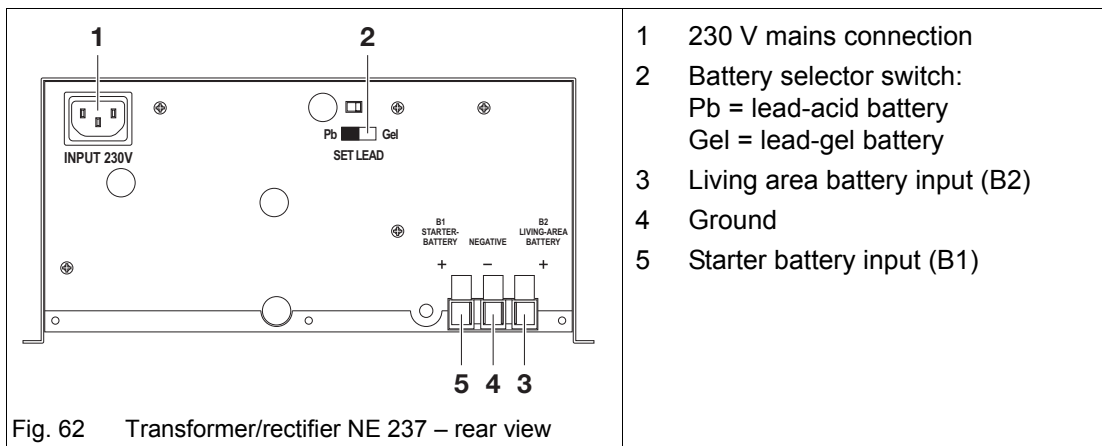

Fig. 62 Transformer/rectifier NE 237 – rear view
- ➔ Check the battery selector switch (Fig. 62/2) is in the correct position (Pb or gel).
▲ If the battery selector switch (Fig. 62/2) is set to the wrong position, the living area battery could become damaged.
→ Disconnect the transformer/rectifier NE 237 from the mains before setting the battery selector switch (Fig. 62/2) to a different position.